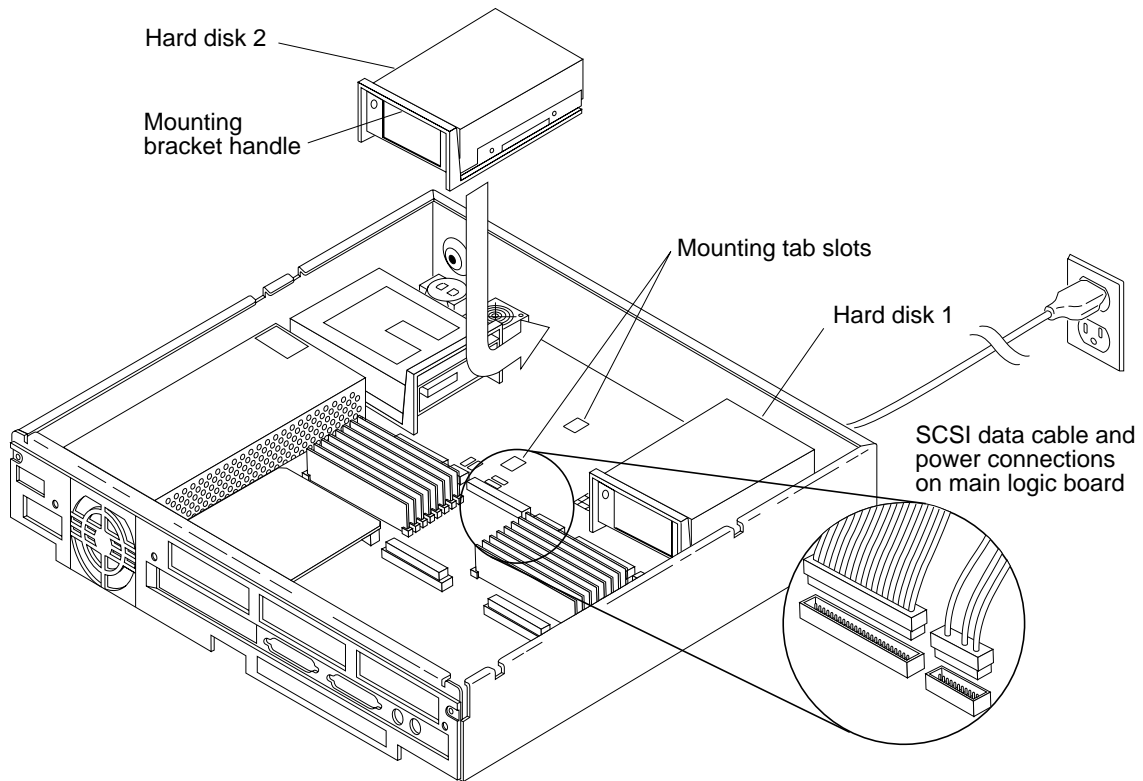

Figure 4-14 Removing and Replacing the Hard Disk Drive.
- 5. Disconnect the hard disk drive power and data cables from the main logic board (see Figure 4-14).**
- 6. Grasp the hard disk drive mounting bracket handle (see Figure 4-14). Pull it up slightly to release the locking tabs on the bottom of the mounting bracket.**
- 2. Lower the drive into the chassis and align the four mounting tabs on the bottom of the drive mounting bracket with the slots in the bottom of the chassis (see Figure 4-14).**